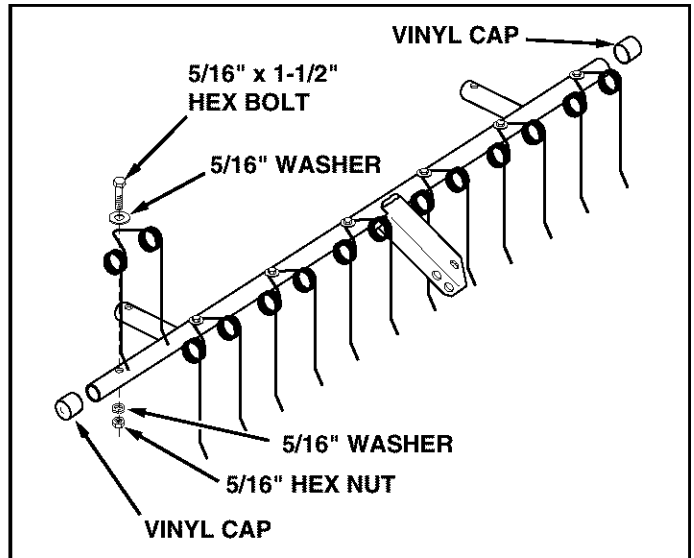

FIGURE 1
1. Spring Tines (7)
- Turn the frame assembly as shown in figure 1.
- Assemble the spring tines to the top of the frame tube using seven 5/16" x 1-1/2" hex bolts, 5/16" flat washers, 5/16" lock washers and 5/16" hex nuts. (On sweepers smaller than 42", use only 5 spring tines.) See figure 1.
- Assemble a vinyl cap onto each end of the frame tube. See figure 1.